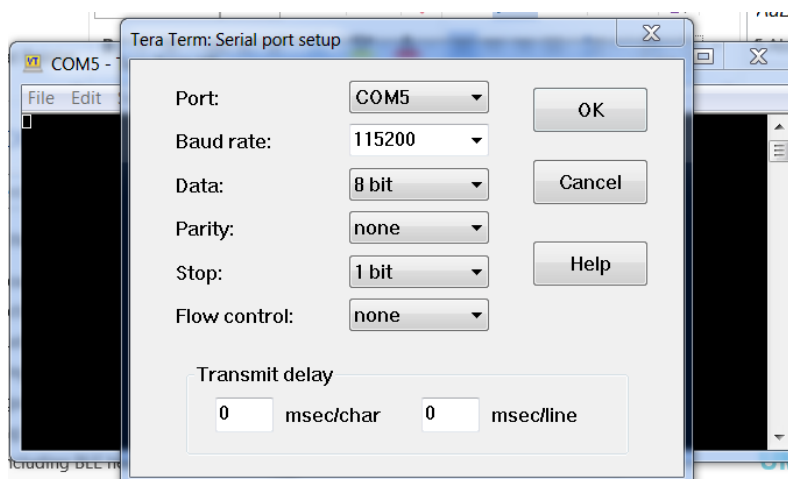

Figure 68: Configuring the serial port
- From the Menu bar choose Setup > Serial port ... and configure the serial port as 115200-8-n-1 as shown in Figure 68.